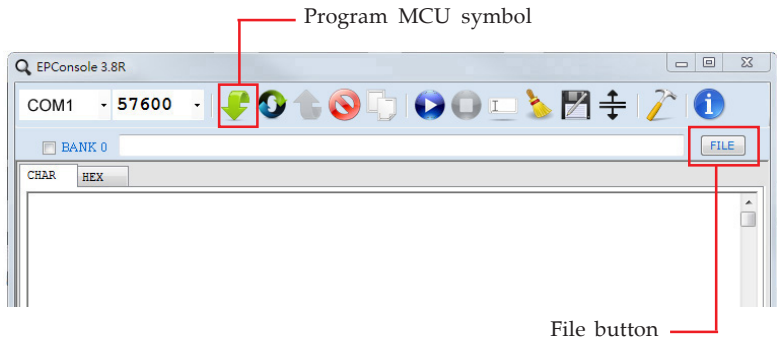

Figure 4
5. Click **File** button and select the firmware HEX or BIN file, see **Figure 4** on page 6.
6. Power on the switch and press the **Program MCU** symbol, see **Figure 4** on page 6.